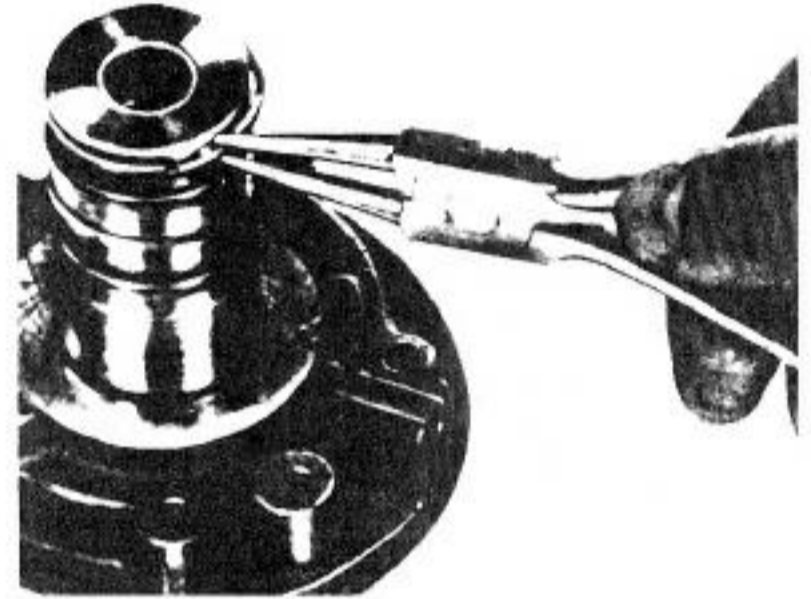

Fig. 10-13. Removing clutch piston rings from pump.
3. Use needle nose pliers to unhook the piston rings, as in Fig. 10-13, and remove the rings.